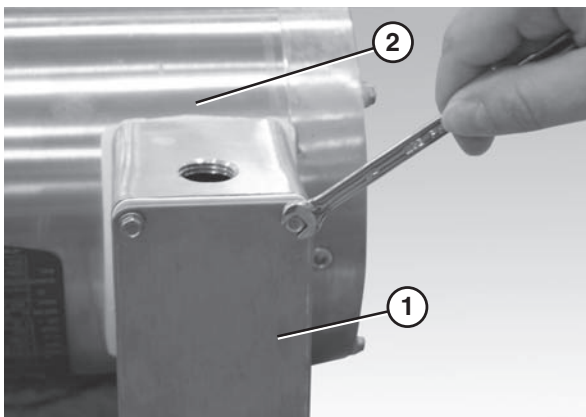

Figure 58
1. Loosen the screws and remove the cover (Figure 58, item 1) from the junction box located on the side of the motor (Figure 58, item 2).